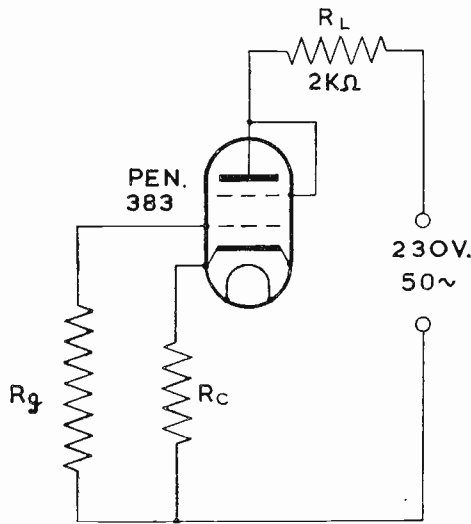

Fig. 1. Fundamental circuit for triode valve operating on A.C.
(1) The valve will be used as a relay and will have maximum and minimum D.C. equivalent values of anode current (and no intermediate values) controlled by some switching arrangement in the grid circuit.
(2) The anode voltage will be derived from a supply of 230 V 50 c/s., a common value.
(3) The valve under investigation is a PEN 383; an A.C./D.C. mains output pentode, in this application connected as a triode (Fig. 1).
(4) The anode load  $R_L$  will be purely resistive requiring, at the two maximum and minimum values of anode current noted above, certain known power dissipations.
This, however, is not very helpful as no control over the grid voltage has been considered. Fig. 1 shows a circuit of quite conventional electrode connections; the grid and cathode being returned to "earth" by  $R_g$  and  $R_c$  respectively. Let us suppose that in the anode circuit we have to establish an E.C.A.C. of 22.5 mA to maintain closed a device that requires 1.0 watt of input power. While calculations would determine the exact value of  $R_o$  to provide 22.5 mA of E.C.A.C., the anode characteristics do not supply the answer in a readily obtainable manner.